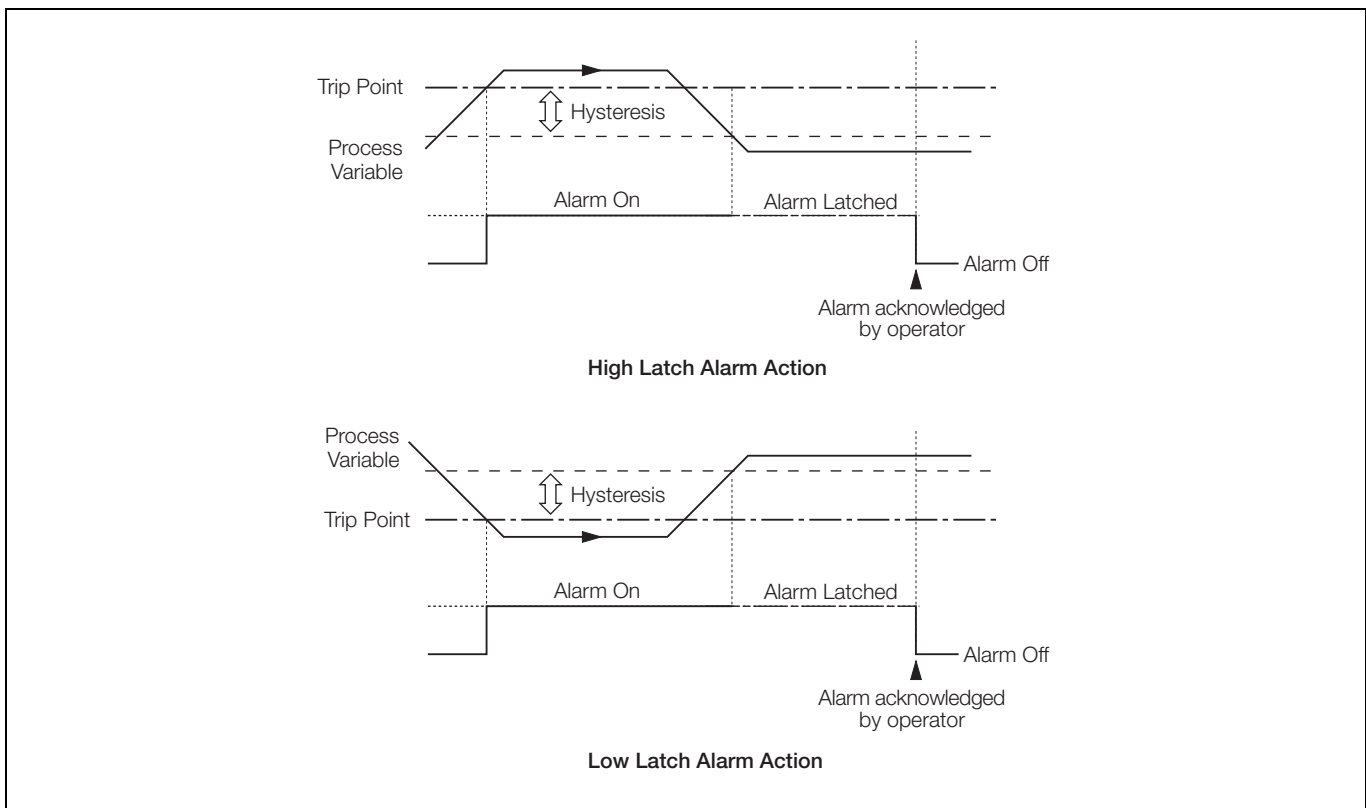

Fig. 4.12 High/Low Latch Alarms
- High/Low process – see Fig. 4.12, page 78
**Note.** Process and Latch alarms only – see Figs 4.12 and 4.13.